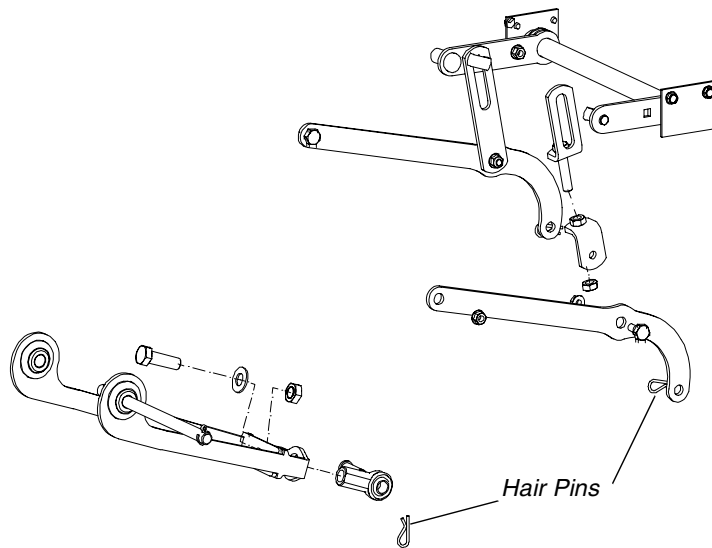

Figure. 5
- f. Remove three hairpins from the deck (See Fig. 5). Remove the (2) hairpins on the left and right rear side of the cutter deck, and (1) hairpin from the front of the deck.